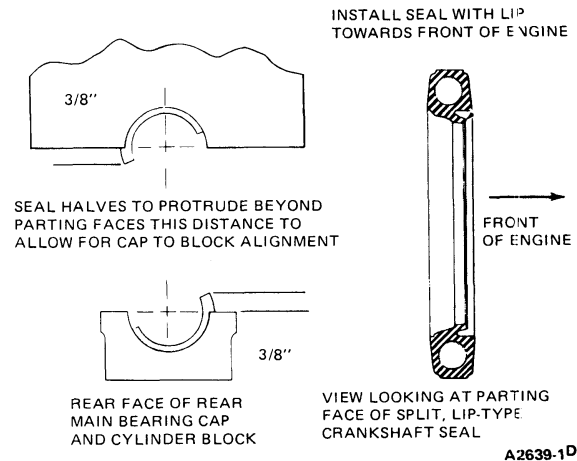

FIG. 20 Installing Crankshaft Rear Oil Seal
3. Carefully install the upper seal (cylinder block) into its groove with undercut side of seal toward the FRONT of the engine (Fig. 20), by rotating it on the seal journal of the crankshaft until approximately 3/8 inch protrudes below the parting surface.
5. Install the lower seal in the rear main bearing cap with undercut side of seal toward the FRONT of the engine (Fig. 20), allow the seal to protrude approximately 3/8 inch above the parting surface to mate with the upper seal when the cap is installed.